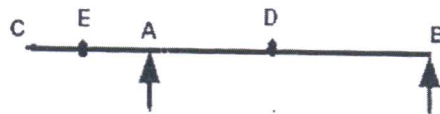

Fig. 10
- (b) Plot ILD for reactions at A and B supports and S.F. and B.M. at point 'E' and 'D' for the beam shown in Fig. 10 Assume $l(CE) = l(EA) = 1\text{ m}$, $l(AD) = 3\text{ m}$, $l(DB) = 7\text{ m}$. [8]